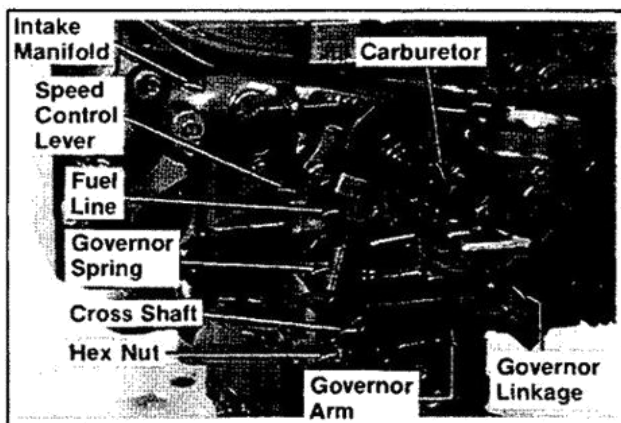

Figure 9-6. Removing External Governor Components.
1. Refer to Figures 9-6 and 9-7. Mark or note the position of governor spring in governor arm and speed control lever. Remove the governor spring.